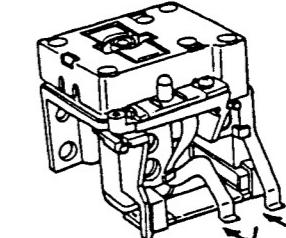

Fig. 2
3. Mount the flex strip that connects the disc tilt detection PCB and the TRKG and FOCS coils on the Head assembly as shown in Fig. 2.